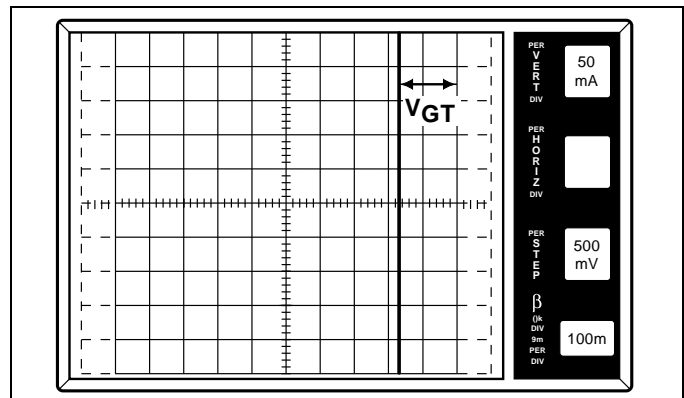

Figure 19.15  $V_{GT}$  in QIII is 820mV
3. Repeat Procedure 16. (See Figure 19.15.)